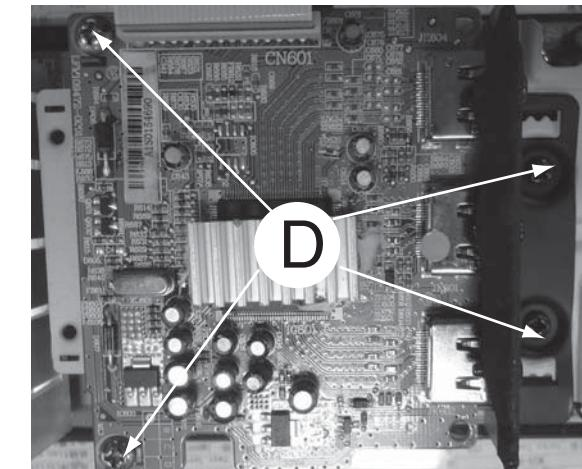

Figure 4
- 1) Loosen 4 screws "D" to remove the HDMI Repeat Board as shown in figure 4.